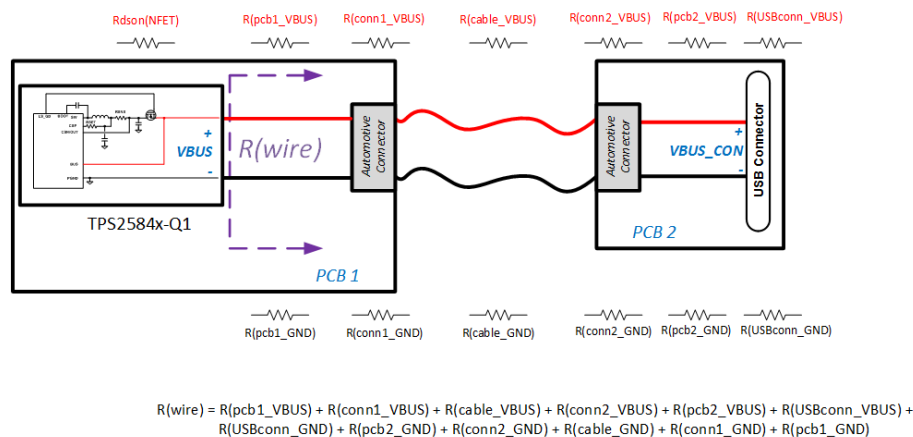

图 10-19. Automotive USB Resistances
When a load draws current through a long or thin wire, there is an IR drop that reduces the voltage delivered to the load. Cable droop compensation linearly increases the voltage at the CSN/OUT pin of TPS2584x-Q1 as load current increases with the objective of maintaining $V_{\text{BUS_CON}}$ (the bus voltage at the USB connector) at 5 V, regardless of load conditions. Most portable devices charge at maximum current when 5 V is present at the USB connector. Figure 10-19 provides an example of resistor drops encountered when designing an automotive USB system with a remote USB connector location.
- Cable compensation: Total resistance including cable resistance, contact resistance of connectors, TPS2584x-Q1 current sense resistor and external NFET $r_{DS(on)}$ (if used). Refer to 图 10-19 for examples of resistance in an automotive application.